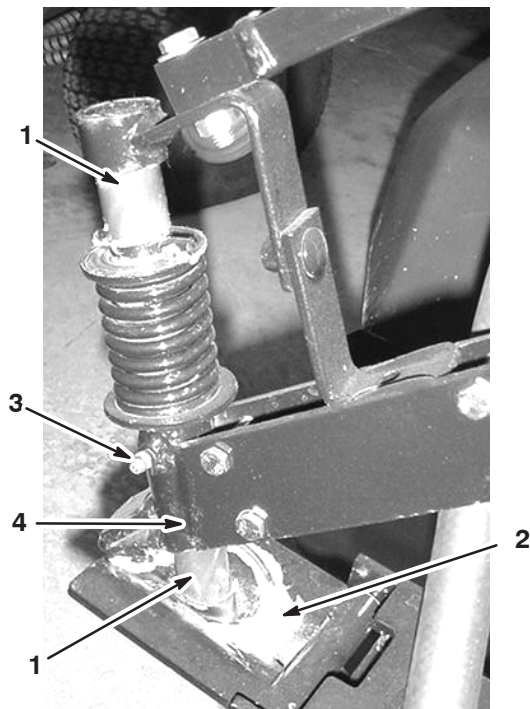

Figure 44
1. Manually place grease on the support shaft and within the ball seat of the hinge plate as shown in Figure 44.
2. Pump grease into the fitting located below the spring until grease can be seen coming out of the bottom of the pivot assembly (Fig.44).